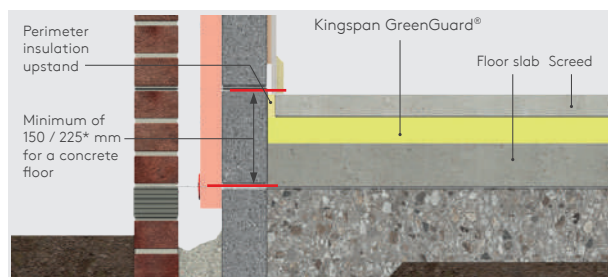

Figure 1 - Complete concrete floor insulation
For buildings with relatively small ground floor areas (primarily domestic properties), if the ground floor is left uninsulated, the thermal performance will be poor. To enhance the thermal performance, complete insulation of the ground floor should be adopted (Figure 1).
- In order to minimise cold bridging at the edge of the floor, the distance between the top surface of the floor insulation or perimeter insulation upstand, and the bottom of the wall insulation must be a minimum of 150 / 225\* mm for a concrete floor (see Figures 1 & 2). The further down the wall insulation extends past the floor insulation, the better the thermal performance of the junction between the wall and the floor.